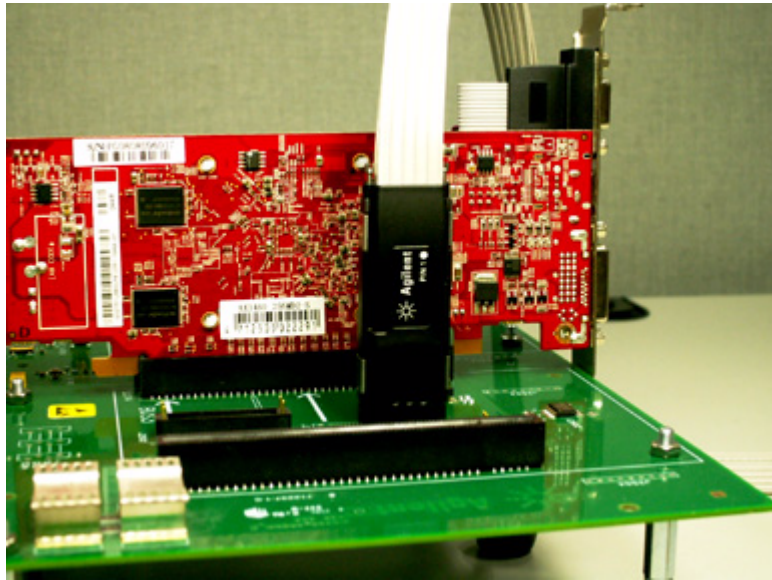

Figure 28 Connecting Midbus Probe Tip
- **Midbus Probe Tip:** This component connects to half size foot print on the board. Figure 28 shows the midbus probe tip plugged into the retention module for the half size foot print on the backplane board.